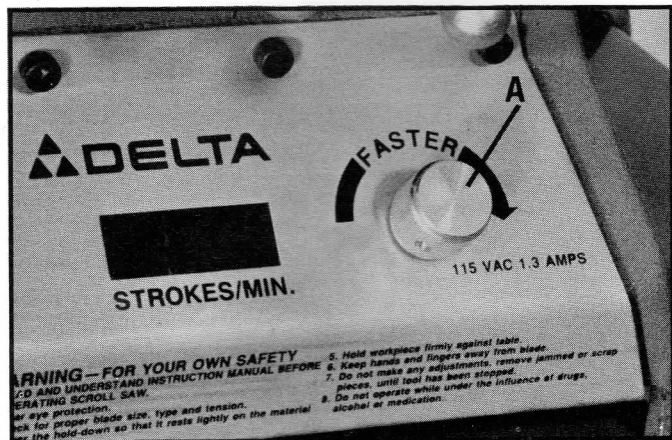

Fig. 12
Your saw may be equipped with a rotating ON-OFF Switch or a push/pull ON-OFF Switch. In both cases the switch appears as shown at (A) Fig. 12.
To turn the saw ON, rotate switch (A) Fig. 12 clockwise and to turn the saw OFF, rotate switch (A) counterclockwise.
To turn the saw ON, pull out switch (A) Fig. 12 and to turn the saw OFF, push in switch (A).